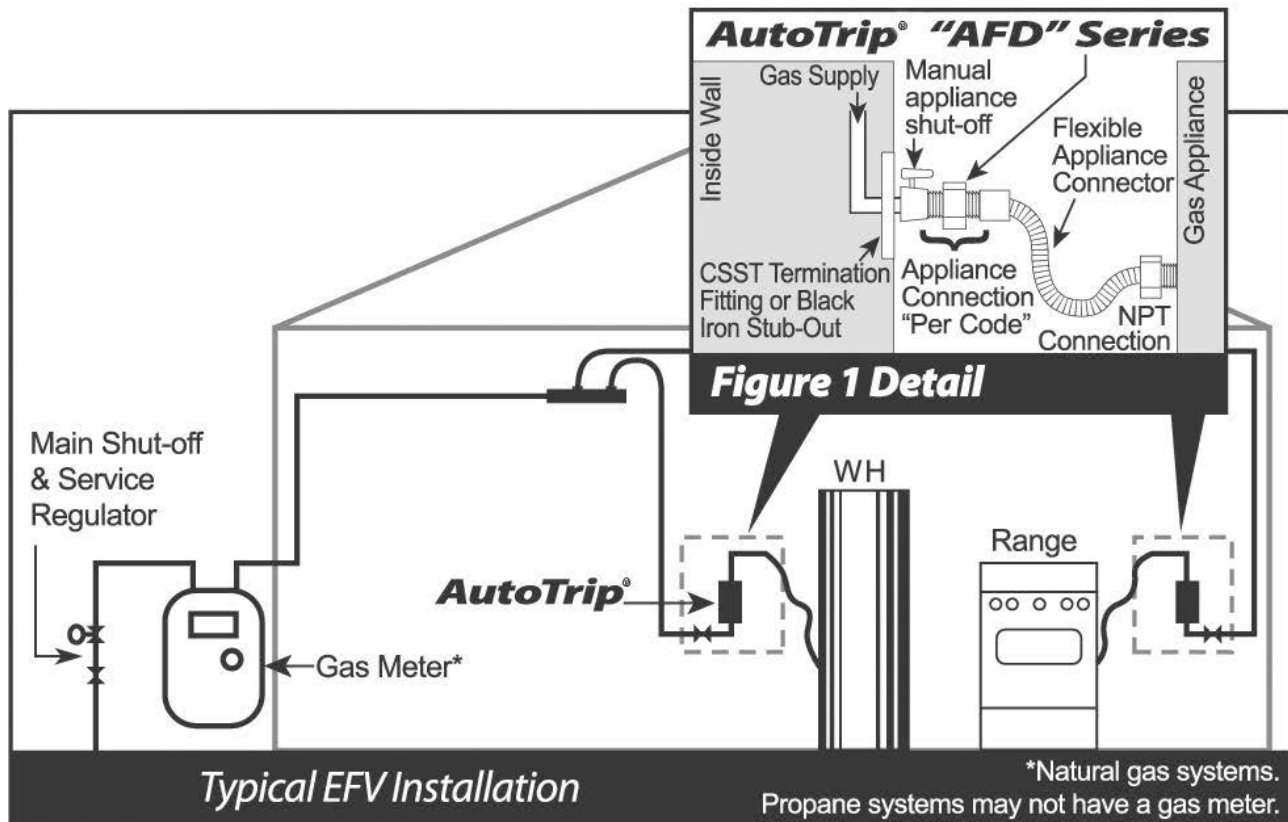

Figure: C-2
1. Application. Determine the Type of EFV based on the application – for the AFD Series the application will be to install the EFV at the inlet to a flexible appliance connector (See Figure: C-2).